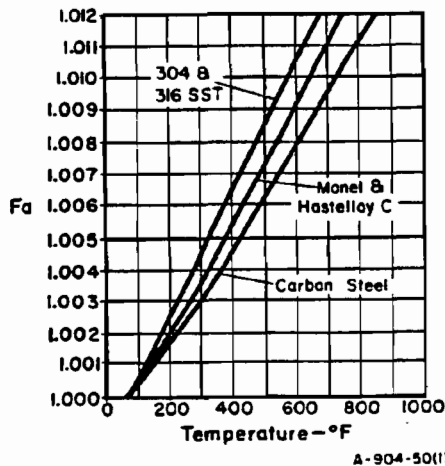

Figure 3-1. Expansion Factor (Fa)
- Fa = expansion factor, Figure 3-1